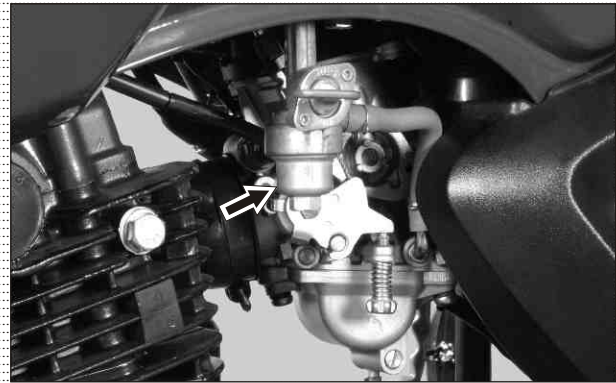

Fig. 2.31
- Loosen and remove cup fuel strainer retaining cock assembly fuel in 'OFF' position. (Fig. 2.31)